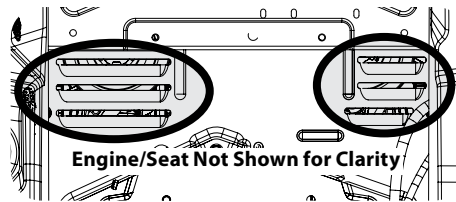

Figure 4-2
- Keep both sides of transmission cooling slots, exhaust manifold, around fuses, all wiring and harnesses, muffler pipe, muffler shield, engine intake screens and cooling fins, etc clear of grass clippings and leaves. See Figure 4-2.